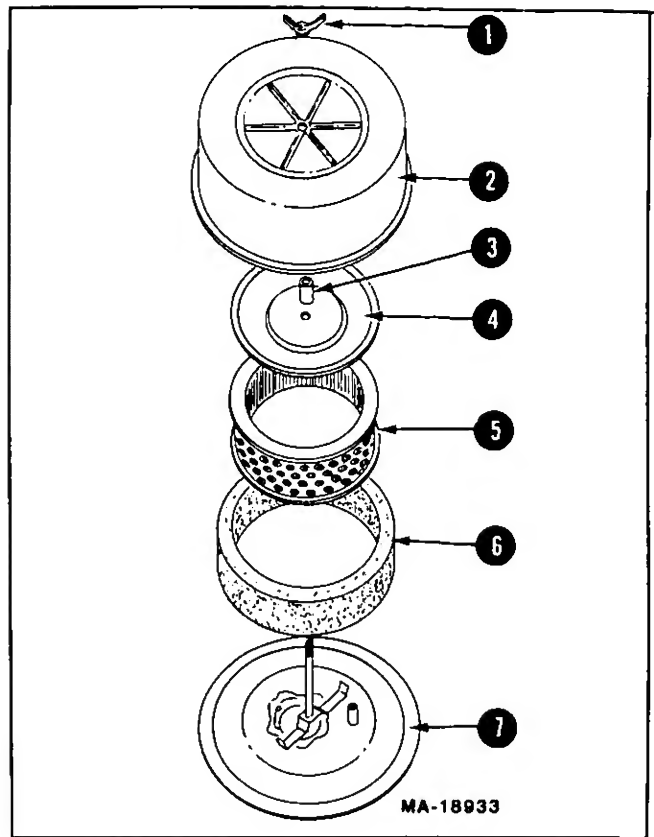

FIGURE 23.
1. Remove wing nut and cover. See figure 23.